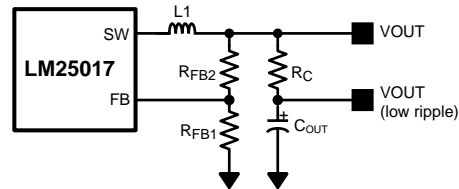

Figure 13. Low Ripple Output Configuration
This regulator regulates the output voltage based on ripple voltage at the feedback input, requiring a minimum amount of ESR for the output capacitor (C_{OUT}). A minimum of 25 mV of ripple voltage at the feedback pin (FB) is required for the LM25017. In cases where the capacitor ESR is too small, additional series resistance may be required (R_C in Figure 13).
For applications where lower output voltage ripple is required, the output can be taken directly from a low ESR output capacitor, as shown in Figure 13. However, R_C slightly degrades the load regulation.